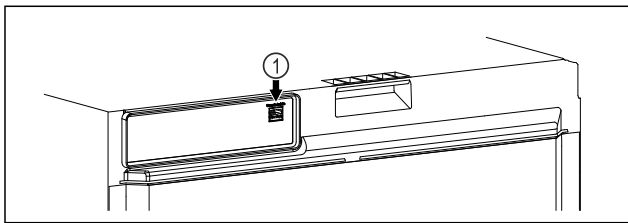

Fig. 107
- SmartModule Fig. 107 (1) has been inserted.